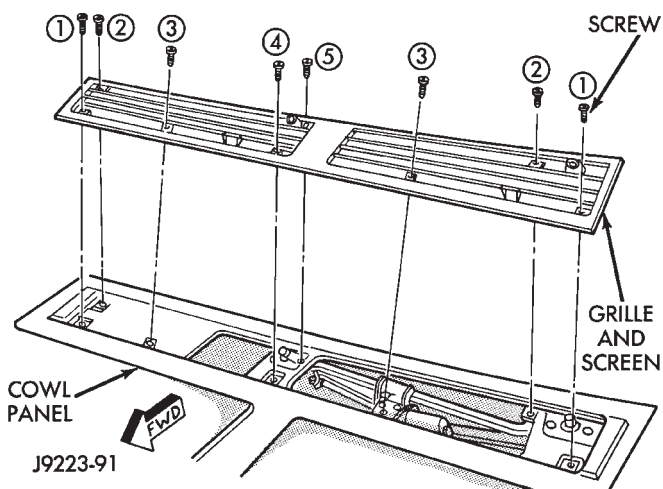

Fig. 31 Cowl Grille Screw Tightening Sequence
(4) Position the cowl grille and screen on the cowl. Install the windshield washer tubes on the nozzles.
(5) Install the cowl screen and grille screws and tighten in the sequence shown in Figure 31.